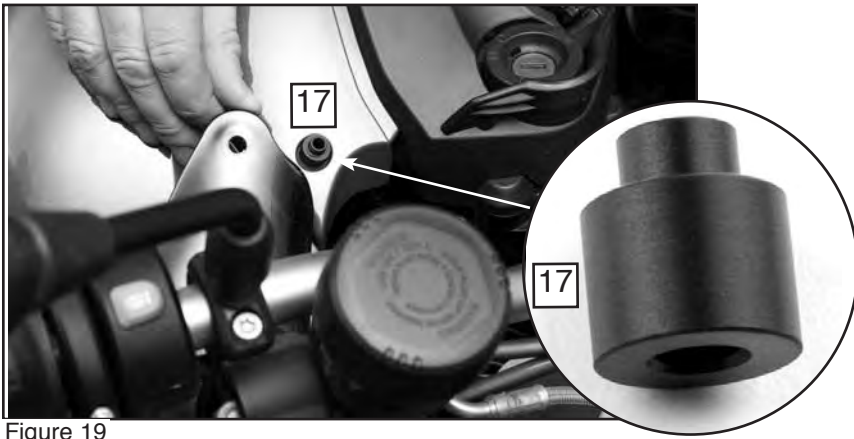

Figure 19
**13.** Place the Support Bushings (17), with narrow end up, in the two empty holes on the Tank Cover. **Figure 19**